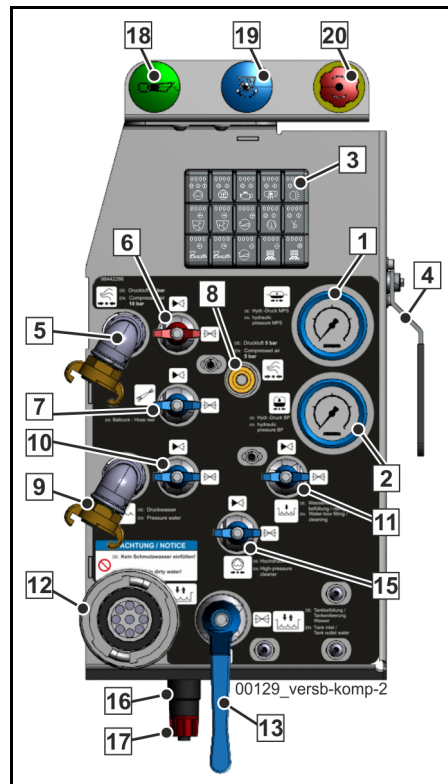

Fig. 181 Supply control
The local control unit (3) is in supply mode (**Fig. 181**).